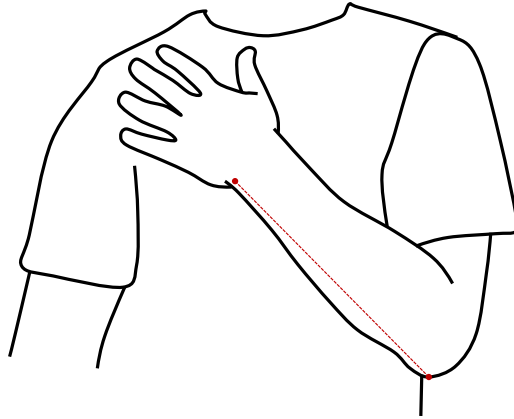

Figure 11: How to measure the ulna.
3. Use the tape measure to measure between the elbow point (olecranon process) and the midpoint of the prominent bone of the wrist (ulnar styloid process) (Figure 11). To do this, hold the tape measure in your left hand near the 15 inch mark. With the tape measure in your right hand, hold your hand over your heart. Use your left hand to extend the 0 inch end of the tape measure to the point of your right elbow. Record the length of your ulna in Table 3.